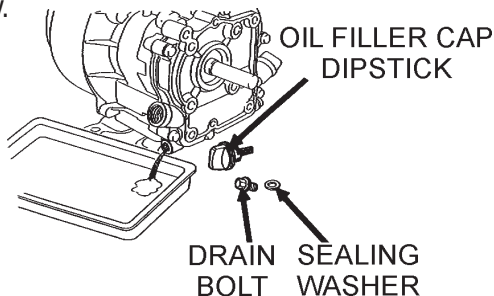

Figure 31. Engine Oil (Draining)
- Drain the engine oil when the oil is **warm** as shown in Figure 31.